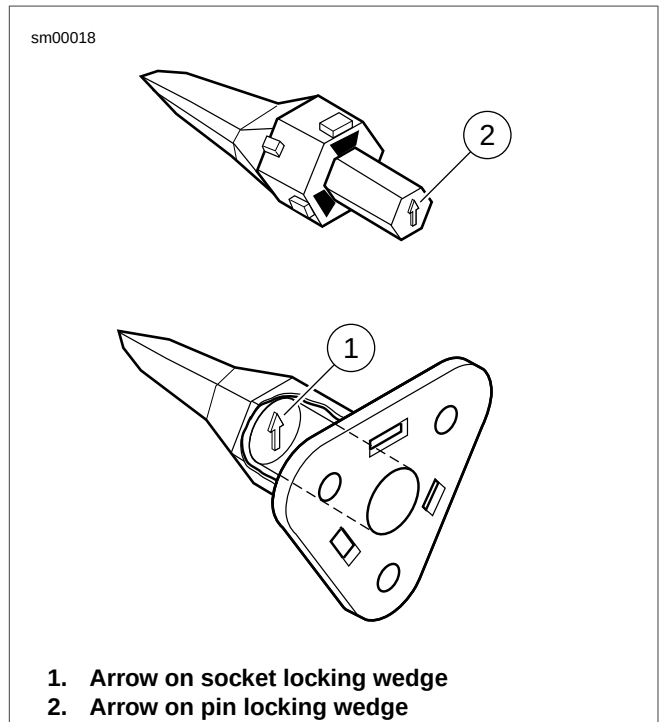

Figure A-28. Deutsch DT Sealed Connector: 3-Place Locking Wedges
- See Figure A-28. While rectangular wedges do not require a special orientation, the conical secondary locking wedge of the 3-place connector must be installed with the arrow (1) pointing toward the external latch.
- See Figure A-28. While rectangular wedges do not require a special orientation, the conical secondary locking wedge of the 3-place connector must be installed with the arrow (2) pointing toward the external latch.